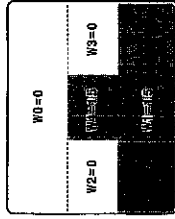

Fig. 2
- **PRESET 2** (Basic setting, see **Fig. 2**)